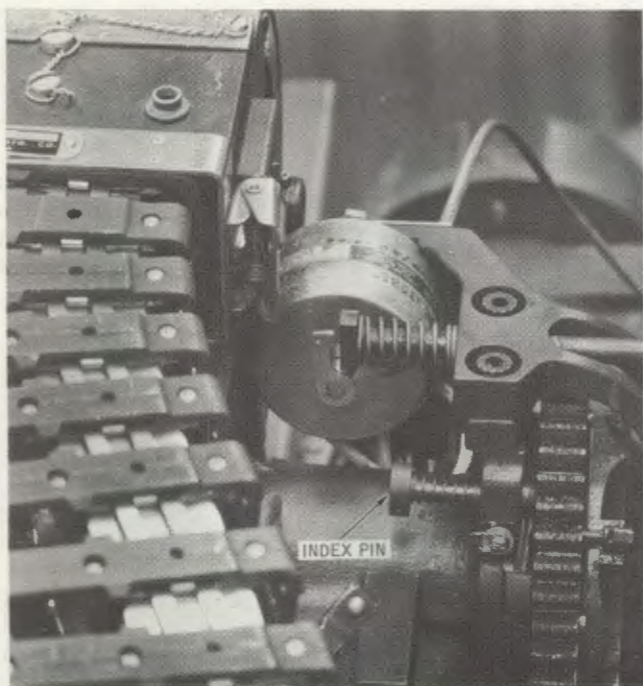

Figure 3-22. Declutching feeder assembly.
m. Declutching Feeder Assembly Index Pin (fig. 3-22). Times the declutching feeder to the gun.